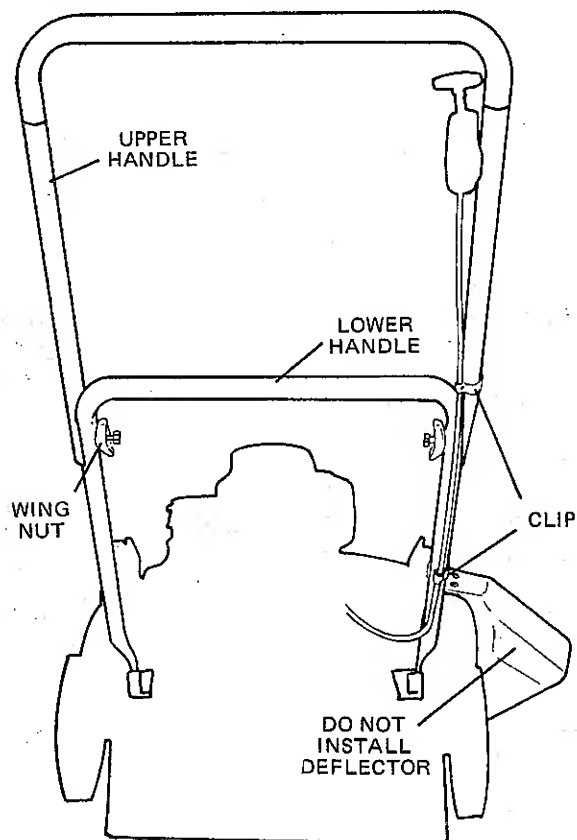

Figure 1
1. Straighten upper and lower handles out and lock them in position with two wing nuts. (Figure 1) Use care not to loosen throttle control cable from clips on handles or kink throttle control cable when folding or unfolding.